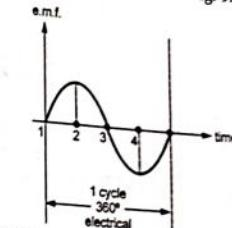

Fig. 9.5.2 Alternating nature of the induced e.m.f.
- So if we plot the magnitudes of the induced e.m.f. against the time, we get an alternating nature of the induced e.m.f. as shown in the Fig. 9.5.2.